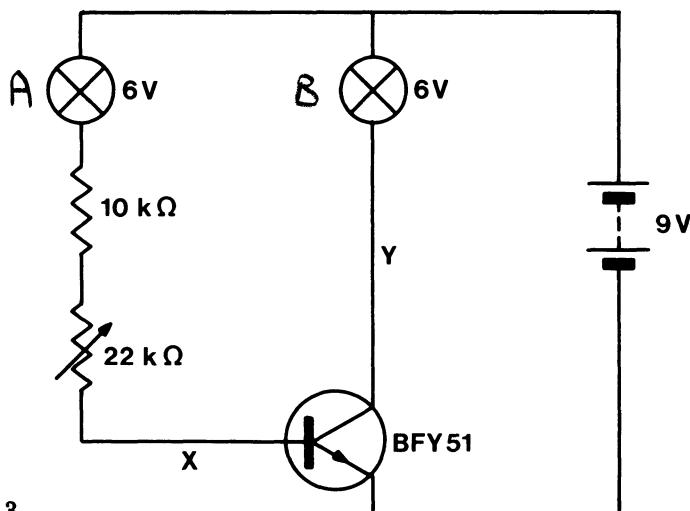

FIG. 1.13
1. Build the circuit shown in Fig. 1.13 and observe what happens when the variable resistance is altered. Notice that although the brightness of bulb B changes, bulb A does not light. The reason why bulb A does not light is that even with the variable resistor set to no resistance ( $0\ \Omega$ ) there is still a  $10\ k\Omega$  resistor in series with bulb A and this is too large to allow enough current to pass through the bulb to light it.